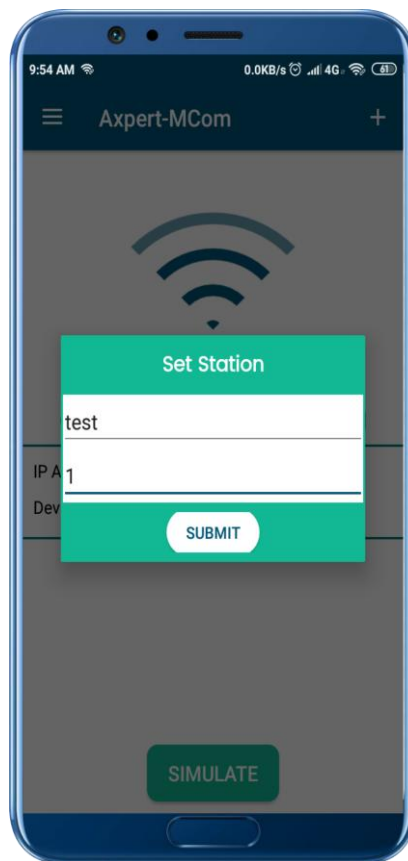

Figure 11: Setting product name and station number
- Station Name can be given as per the user choice, but the station number should be the same as that configured in the **C502 parameter** of the product HMI. Click the submit button (Figure 11).